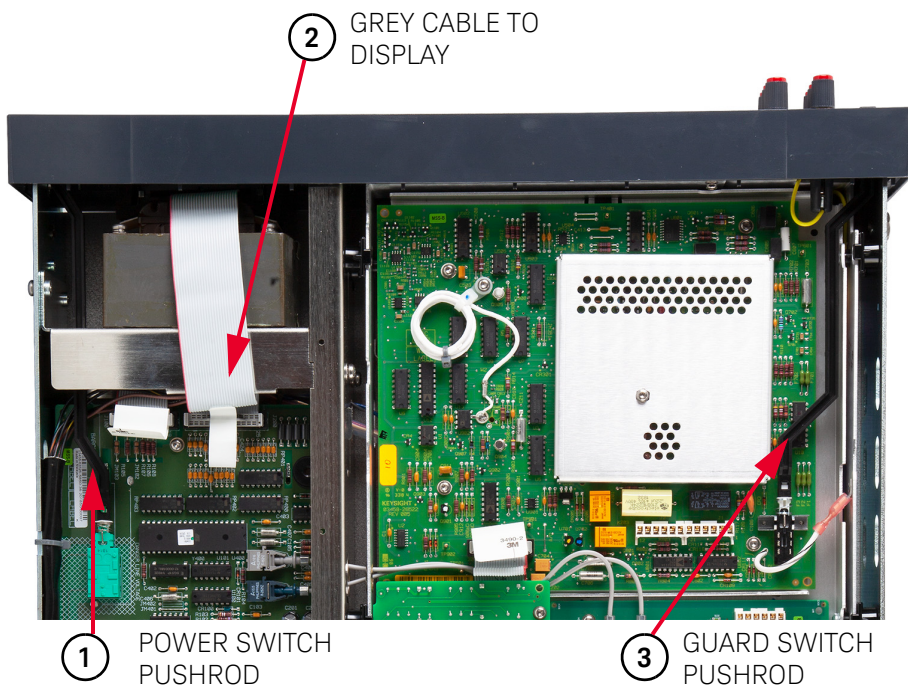

Figure 3-16 Guard and power pushrods, and display cable locations
- 3 Refer to **Figure 3-16**. Do the following:
- 15 Refer to Figure 3-16. Do the following: